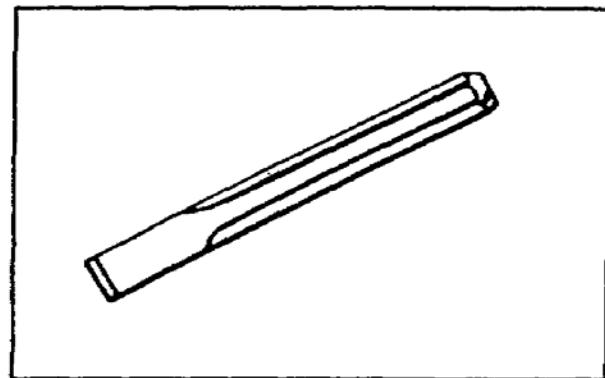

Figure 3-8. Cold chisel (3/4 inch)
e. . Cold Chisels. Cold chisels (Figure 3-8) are used to chip paint or scale from metal surfaces, and the chisels are available in different widths and lengths. Chisels are sharpened by grinding their heads on a grinding wheel to restore the bevel, which is usually at a 60- to 70-degree angle. Occasionally, you may need to remove the burrs from the heads if the heads have mushroomed.